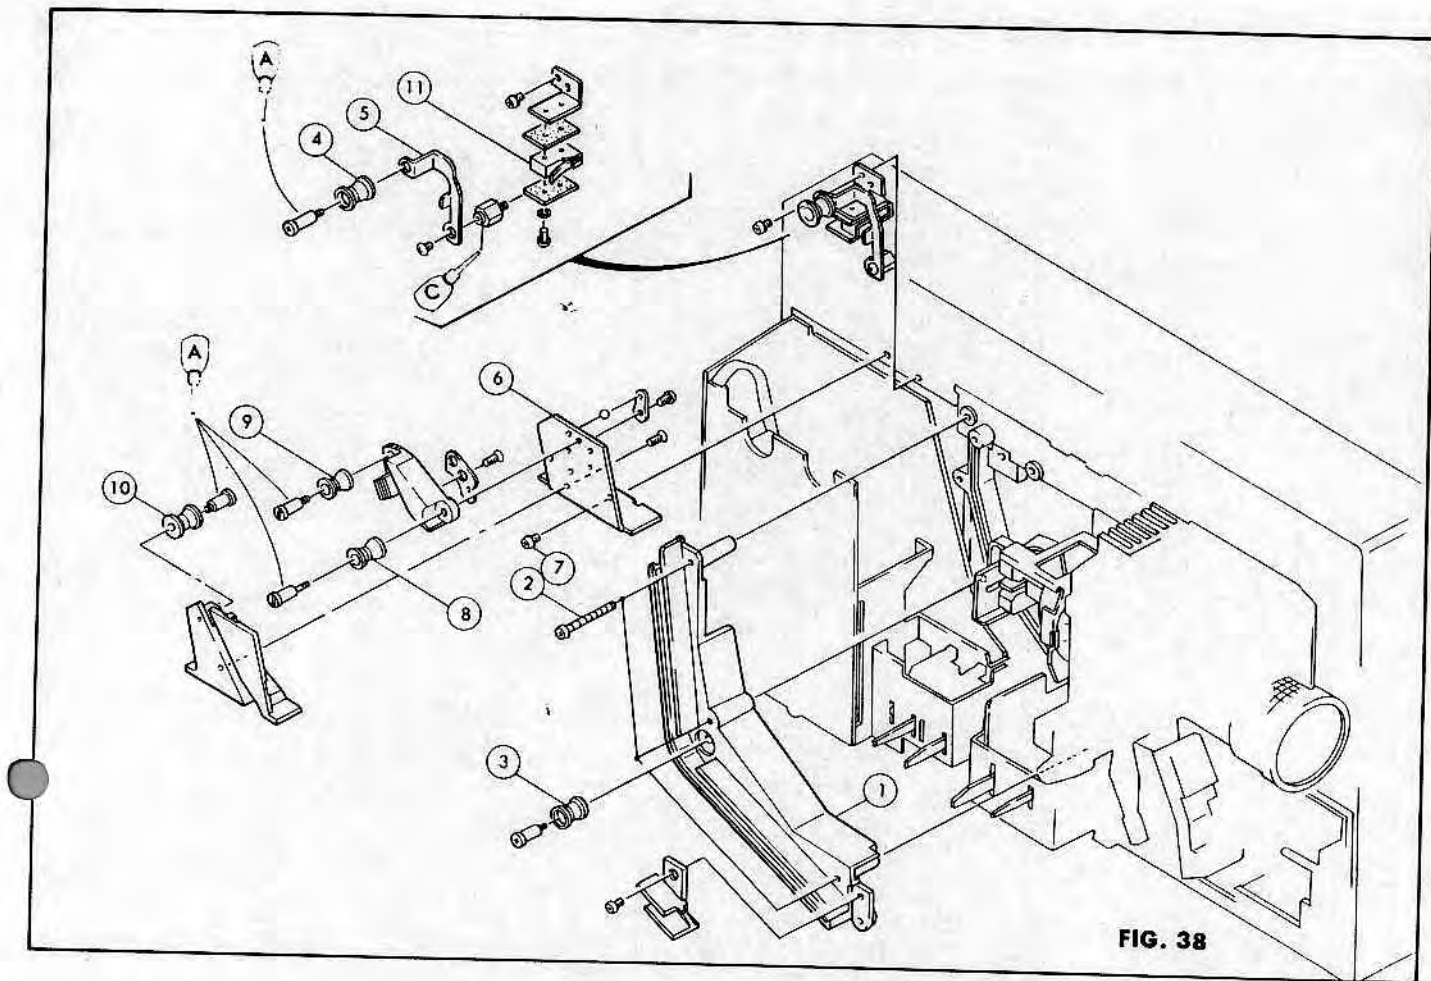

FIG. 38
TROUBLESHOOTING: (Refer to Fig. 38)
1. Unscrew the (2)x3 and remove the (1).
2. To remove the (6), take off the amplifier cover (Page 14) and unscrew the (7)x2.
3. For further disassembly, refer to Fig. 38.